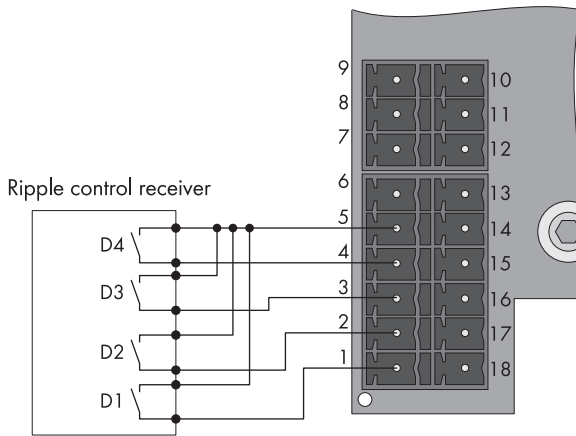

Figure 5: Pin assignment of the module at the ripple control receiver terminals
- One ripple control receiver with four outputs (see figure 5)